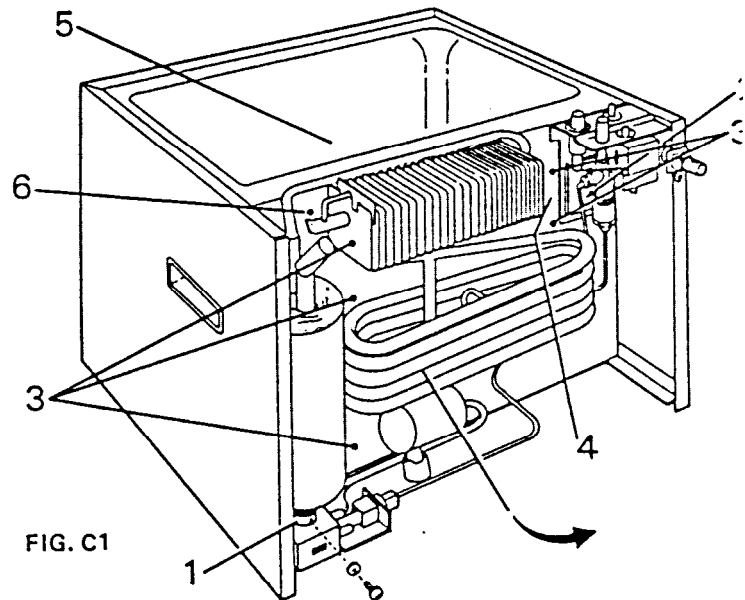

FIG. C1
1. Remove screw and disconnect burner from chimney (FIG. C1).
2. Disconnect heater wires from terminal block (FIG. C1).
- a. Remove heaters from boiler case (FIG. C1).
3. Remove screws holding unit from rear (FIG. C1).
4. Disconnect green grounding wire (FIG. C1).
5. Pull out on cooling flange to remove fr evaporator coil (FIG. C1).
6. Pull thermostat capillary tube out gently and move so that cooling unit will clear (FIG. C1).
7. Remove cooling unit by hinging out on right side (FIG. C1).
5. Install the heat elements completely back into the pocket and attach to terminal block (FIG. C1).
6. Reconnect burner assembly to chimney (FIG. C1).
7. Reinstall capillary tube into proper position (FIG. C1).